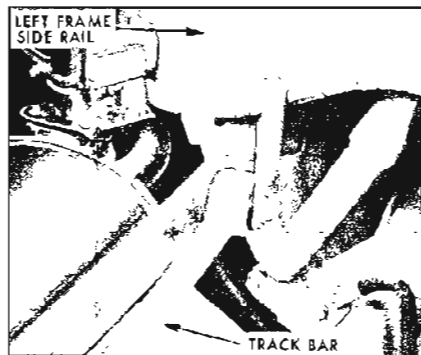

Figure 7-28—Track Bar-Frame Attachment
5. If track bar bracket is to be removed, remove three bolts, washers, and nuts attaching track bar bracket to frame side rails and remove track bar bracket. See Figure 7-28.